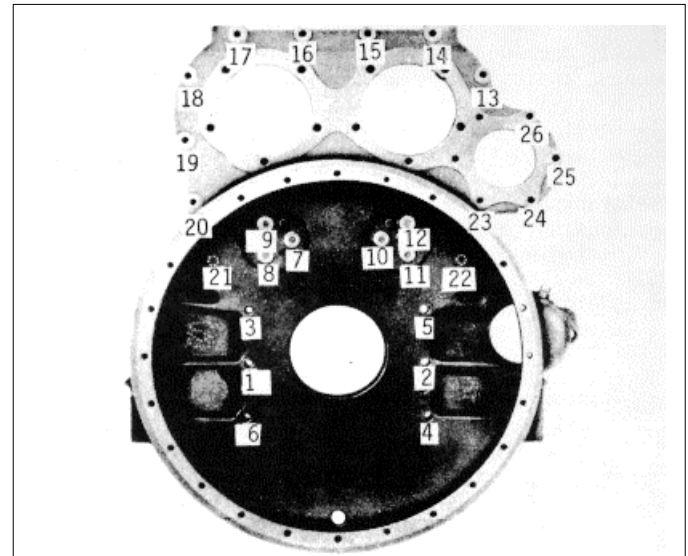

Fig. 4
- (10) Refer to Fig. 4 for the final bolt tightening sequence and, starting at number 1, tighten all of the bolts to the specified torque. Tighten the 3/8"-16 idler gear hub and hole spacer self-locking bolts to 40-45 ft-lbs (54-61 Nm) torque. Tighten all other 3/8"- 16 and 3/8"-24 bolts to 25-30 ft-lbs (34-41 Nm) torque, and the 1/2"-13 bolts to 90-100 ft-lbs (122-136 Nm) torque. Be sure to rotate the crankshaft when tightening the idler gear hub bolts and flywheel housing bell.